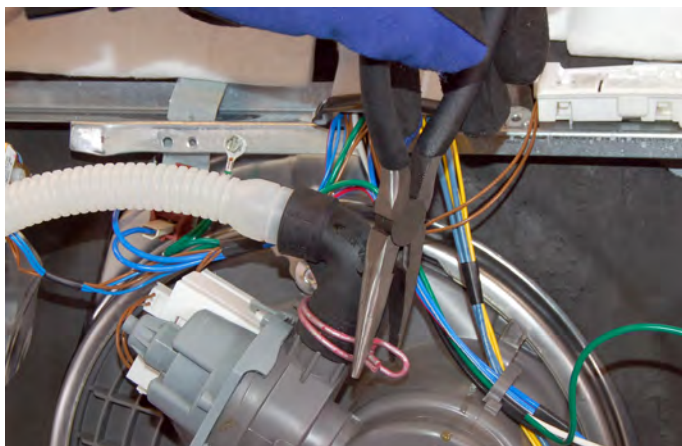

Figure 1
2. Release hose clamp and pull off the hose, (see Figure 1).